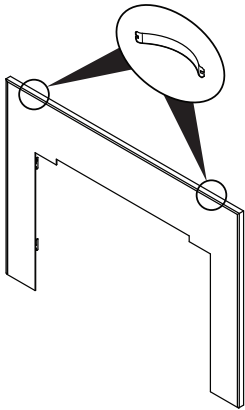

Figure 21.3
- 5. Install two steel springs at the top on each side and between the flat surround and the assembled trim kit as shown in Figure 21.3.